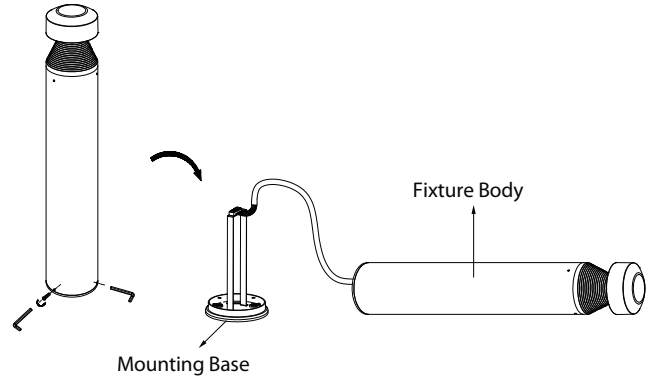

Fig 6
7. Using the hex wrench, loosen the 3 screws on the side of the bottom, and separate the fixture body from the mounting base. Fig. 6